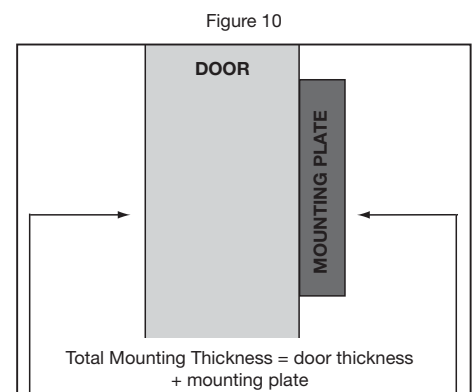

Figure 10
4. Measure total mounting thickness (door thickness + mounting plate). (Figure 10)